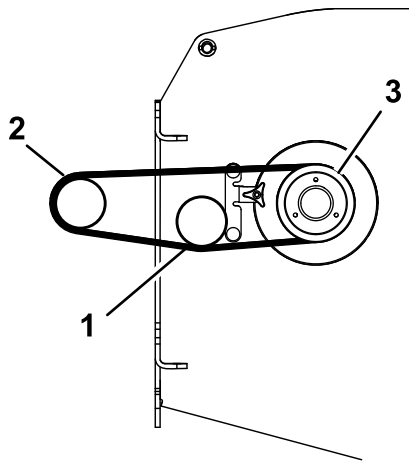

Figure 11
9. Push the spring loaded idler in and slip the belt into the upper groove of the deck sheave. The belt should be routed as shown in Figure 11.